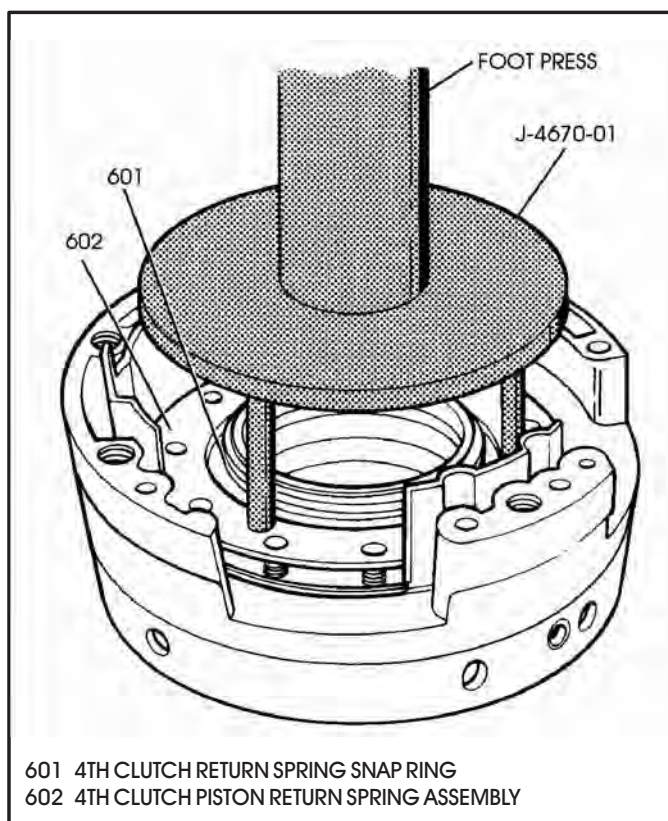

Figure 134
1. Compress the 4th clutch return spring assembly and remove snap ring, as shown in Figure 134.
11. Compress return spring assembly, as shown in Figure 134, and install snap ring.